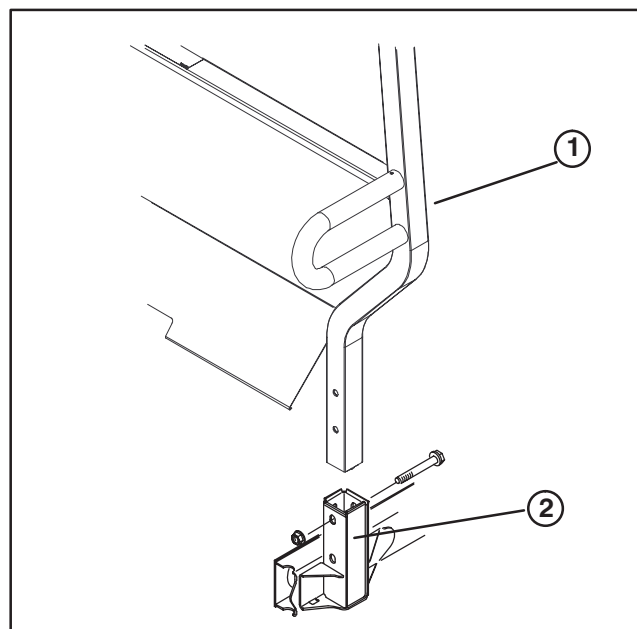

Figure 7
14. If vehicle is equipped with ROPS, remove capscrews and locknuts securing each side of ROPS to mounting brackets (Fig. 7). Remove ROPS and back panel.